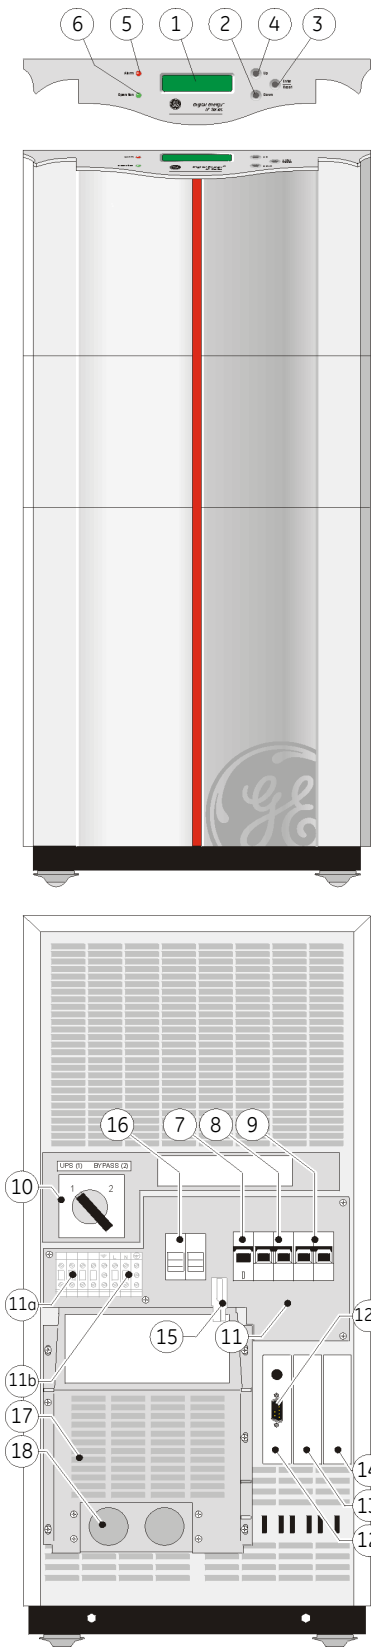

Figure 19 :Front and rear panel
- the circuit breaker 'bypass on/off' (9 in figure 19) is in position 'on'
The numbers between (brackets) refer to figure 19 in section 5.1.
See sections 3.5 and 5.1 for general information on the manual bypass switch (10 in fig. 19).